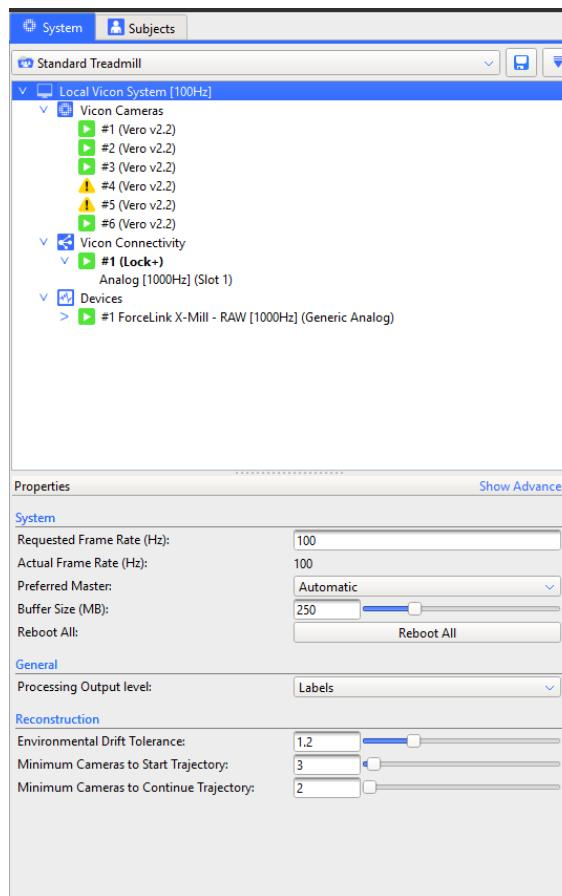

Fig. 5.9: Environmental Drift Tolerance in Nexus
- Environmental Drift Tolerance can be changed a bit too, see Fig. 5.9. This parameter changes the error we allow to recognize a marker pattern.